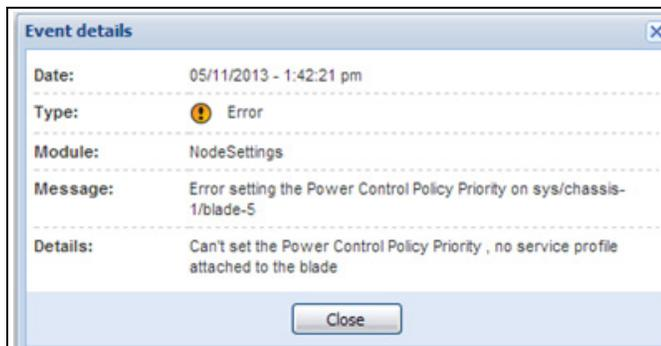

Figure 150. No Service Profile
2. You can't set a priority to a blade that doesn't have a service profile assigned (see Figure 150).